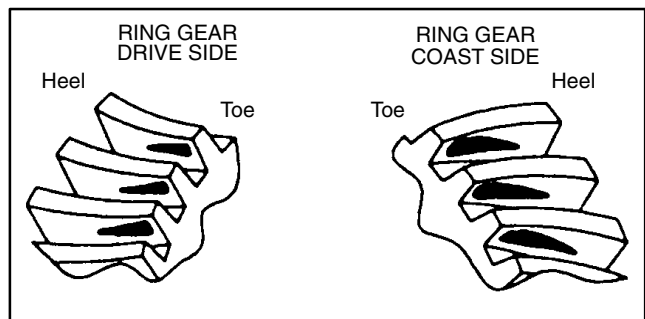

Figure 53
2. While applying a light load to the ring gear, rotate the pinion gear until the ring gear has made one complete revolution. Both the drive side pattern and the coast side pattern on the ring gear should be at the toe portion of the tooth (Fig. 53).